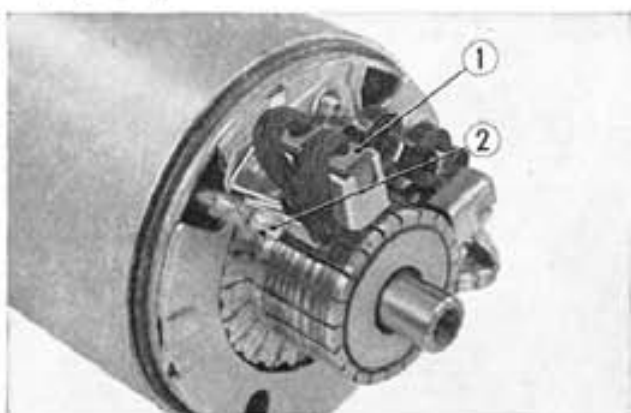

Fig. 9-5 ① Brush ② Brush mounting screw
4. Unscrew the brush mounting screws and remove the brushes from the brush holders. (Fig. 9-5)